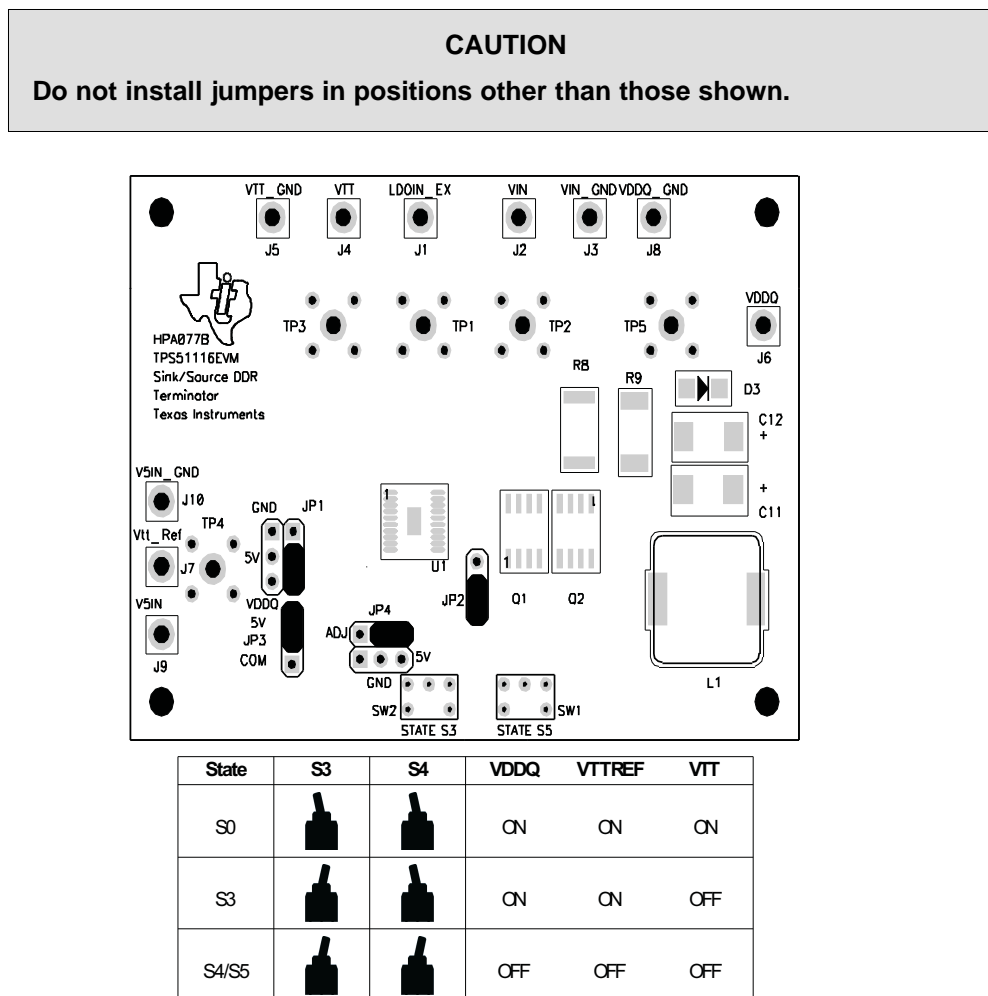

Figure 2. TPS51116EVM Jumper/Switch Locations and Default Positions
Figure 2 shows the location of the four jumper blocks, two switches and three resistors used to adjust the configuration of TPS51116EVM. Refer to the specific configuration settings sections regarding how to set each jumper, switch or resistor for the specific configuration desired.
4. Ensure S3 and S5 are set to the S4/S5 state to ensure the outputs initially disabled before applying the input voltage. See Figure 2 for details.
7. Switch S3 and S5 to the S0 state to enable the outputs. See Figure 2 for details.